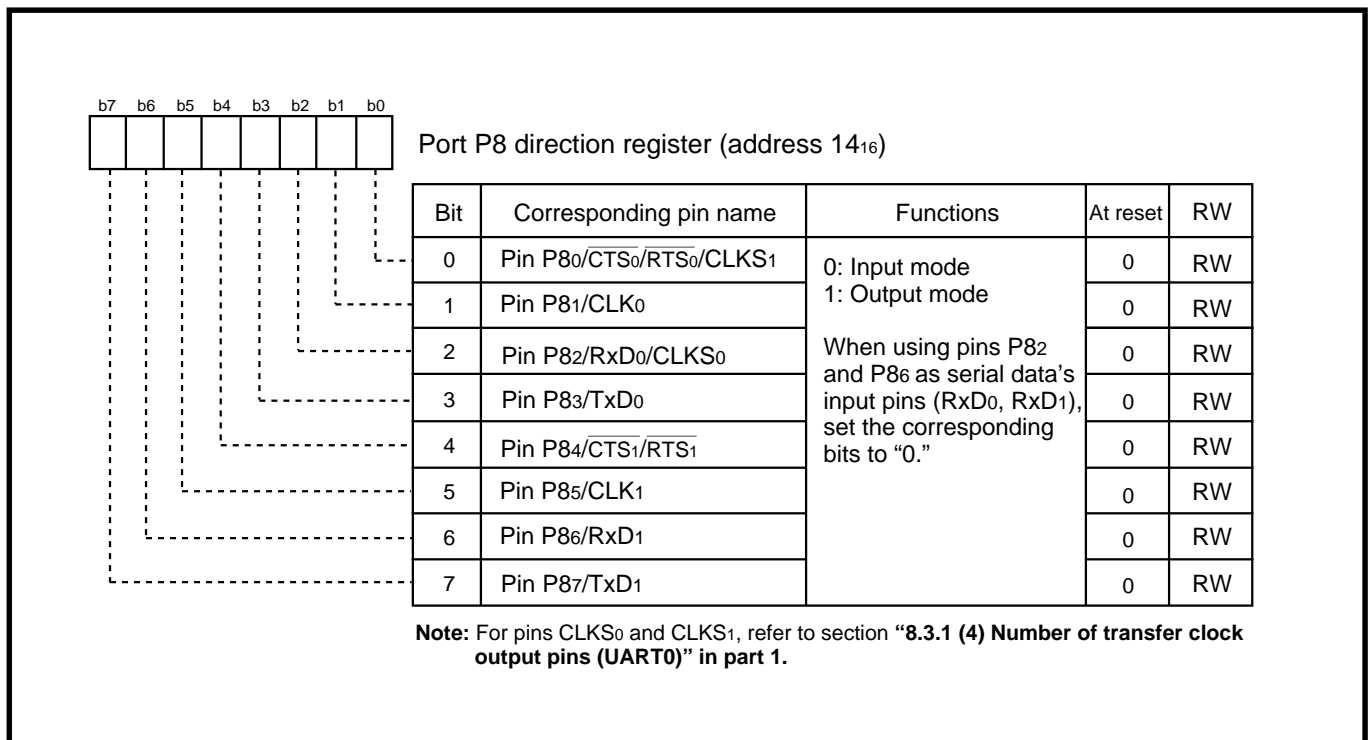

Fig. 8.2.16 Relationship between port P8 direction register and UARTi’s I/O pins
I/O pins of UARTi are multiplexed with ports P8 and P9. When using pins P82 and P86 as serial data input pins (RxDi), set the corresponding bits of the port P8 direction register to “0” to set this port for the input mode. When using pins P80, P81, P83–P85 and P87 as UARTi’s I/O pins ($\overline{\text{CTS}}_i/\text{RTS}_i$, CLKi, TxDi), these pins are forcibly set as the UARTi’s I/O pins, regardless of the port P8 direction register’s contents. Also, as for CLKS0 and CLKS1, refer to section “**8.3.1 (4) Number of transfer clock output pins (UART0)**” in part 1. Figure 8.2.16 shows the relationship between the port P8 direction register and UARTi’s I/O pins. When using UART2, pins P90–P93 are forcibly set as the UART2’s input or output pins. Note that the functions of the UARTi’s I/O pins can be switched by software. For details, refer to the description of each operating mode.